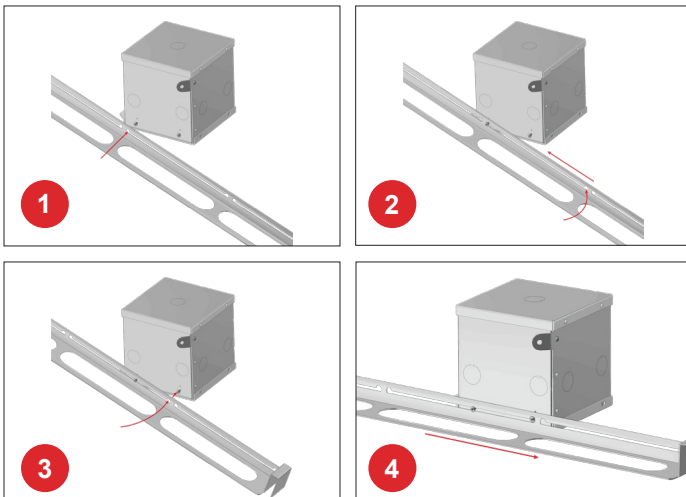

Figure 9.
5. Install the rails onto the pre-installed screws on the conduit box. Keyed slots allow tool-less installation. See Figure 9.